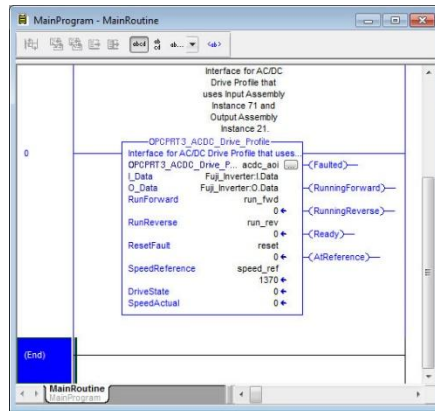

Figure 51: Configure AC/DC Drive Profile AOI
- 10) Edit the add-on instruction according to Figure 51.